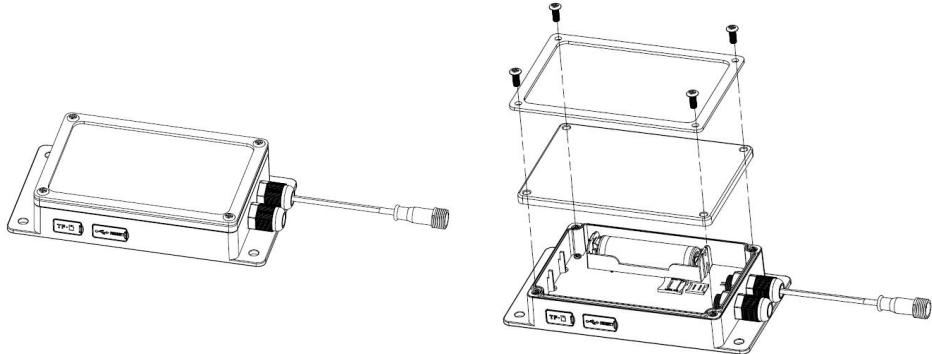

Figure 12
1. Before power on the device, please open the case (Figure 12) and use a 3G SIM card to install in one of the SIM card slots. (Figure 13).The Bigger slot is for micro SIM card and the other is for Nano SIM card.